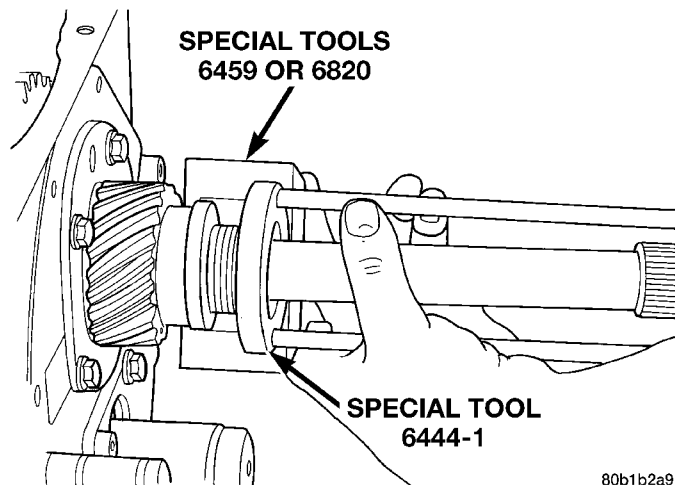

FIGURE 11 - Seating Puller Flange In First Puller Jaw
2. Assemble puller flange Special Tool 6444-1 and puller rods Special Tool 6444-3 for 4X2 models or 6444-4 for 4X4 models (Figure 11).